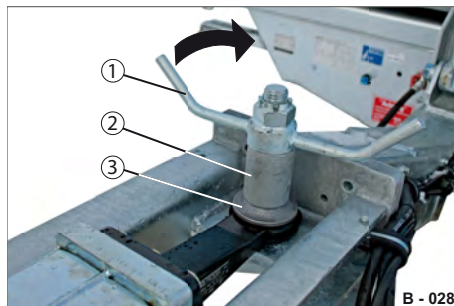

Fig. 25 Securing the towing eye D40 at top
- Engage the shim rest (Fig. 25/3) and the spacer (Fig. 25/2) from above on the fastening bolt of the towing eye (Fig. 24/3).
- Screw the wing nut (Fig. 25/1) onto the fastening bolt.